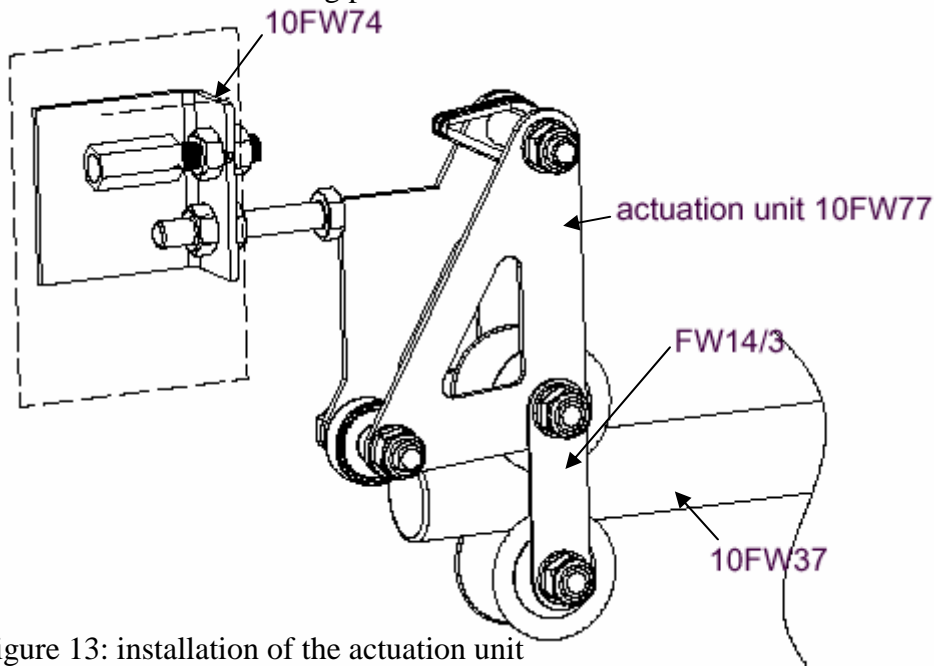

figure 13: installation of the actuation unit
7. Install the actuation unit 10FW77 at the stud bolt for the rear upper guide roller (see figure 13 and MM diagram 18). The existing upper roller will no longer be used. Reinstall the push rod 10FW37 at the same time with the rollers. Reinstall the connecting plate FW14/3.